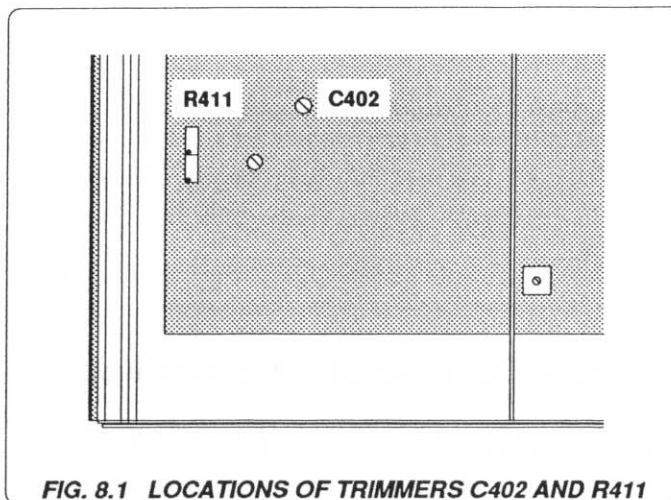

FIG. 8.1 LOCATIONS OF TRIMMERS C402 AND R411
- e. Using the adjustment tool, adjust C402 (see Fig. 8.1) for a minimum peak-to-peak value of the scope waveform. Check that this is less than 5mV. (If this cannot be achieved, a fault exists which must be corrected before proceeding.)
- c. Adjust R411 (see Fig. 8.1) to give a DVM reading as close to zero as possible, and check that this is less than 5 $\mu$ V. (If this cannot be achieved, a fault exists which must be corrected before proceeding.)
- Looking from the front at the bottom of the instrument (now on the right side), identify the bus-bar screw at connection E26 on the Output PCB (see Fig. 8.1 and page 10.2-8).